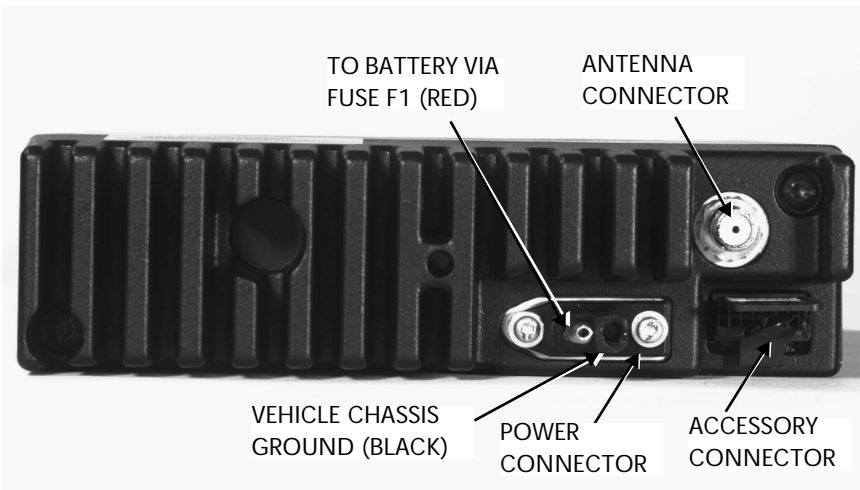

Figure 6 - Connections to Radio Rear Panel
6. To complete your radio installation plug the power cable into the radio power connector. See Figure 6.
8. Connect the antenna cable connector to the radio antenna connector on the rear of the radio. See Figure 6.